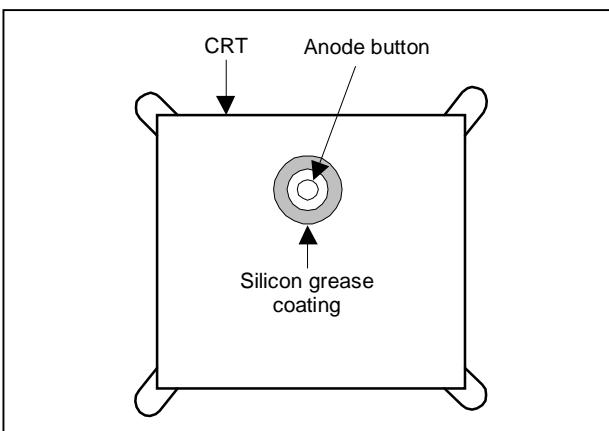

Fig. 6
- Subsequent to replacement of the CRT and HV transformer or repair of the anode cap, etc. by dismounting them, be sure to coat silicon grease for electrical insulation as shown in Fig.6.
- Wipe around the anode button with clean and dry cloth. (Fig.6)